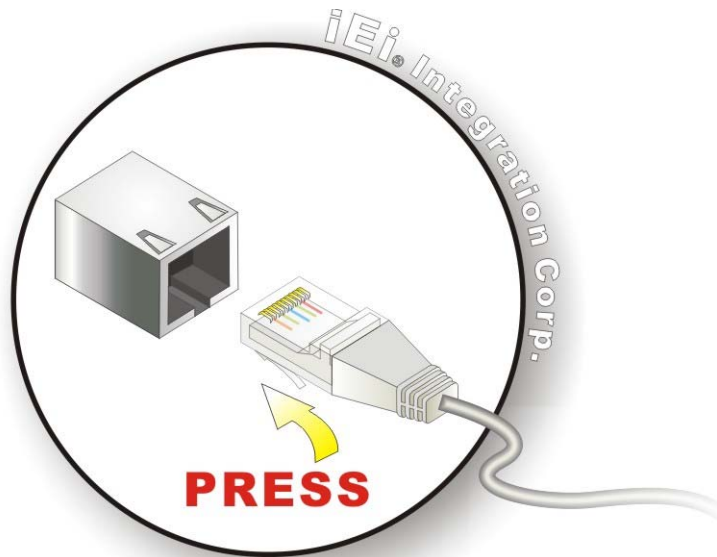

Figure 4-21: LAN Connection
Step 2: **Align the connectors.** Align the RJ-45 connector on the LAN cable with one of the RJ-45 connectors on the KINO-QM770. See Figure 4-21.